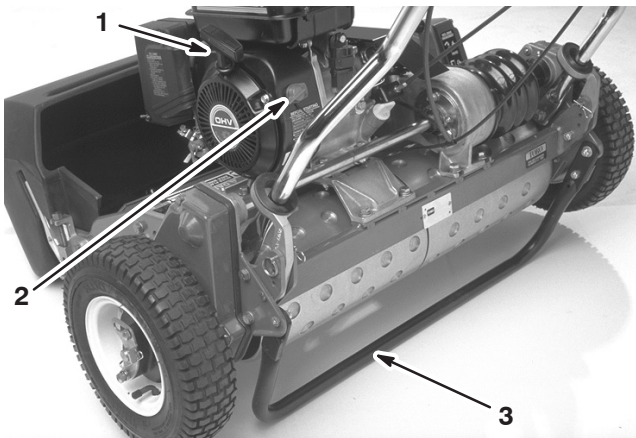

Figure 23
On/Off Switch (Fig. 23)
Recoil Starter (Fig. 23)
Kick Stand (Fig. 23)
3. Move the On/Off switch (Fig. 23) to the On position.